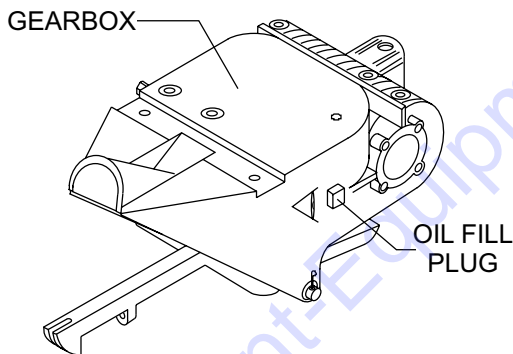

Figure 8. Gearbox
- Determine if the gearbox oil is low by removing the oil plug located on the side of the gearbox. (Figure 8) This plug will be marked by the "check" decal. The correct level of the lubrication oil should be to the bottom of the fill plug.